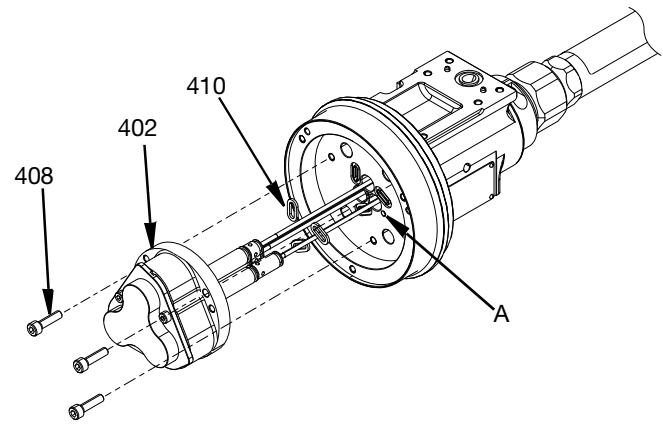

FIG. 34
10. Apply a thin coat of lithium grease to the air gaskets (410) and insert into the center body (301).
11. Apply a thin coat of lithium grease to O-rings (415) and (416). Insert the air cylinder assembly into the center body (301). Apply anti seize onto the M5 screws (408) and torque to 57.5 in-lb (6.5 N•m).
NOTE: The dimple (A) in the face of the center body (301) lines up with the long bearing seal guide (414). See FIG. 34.